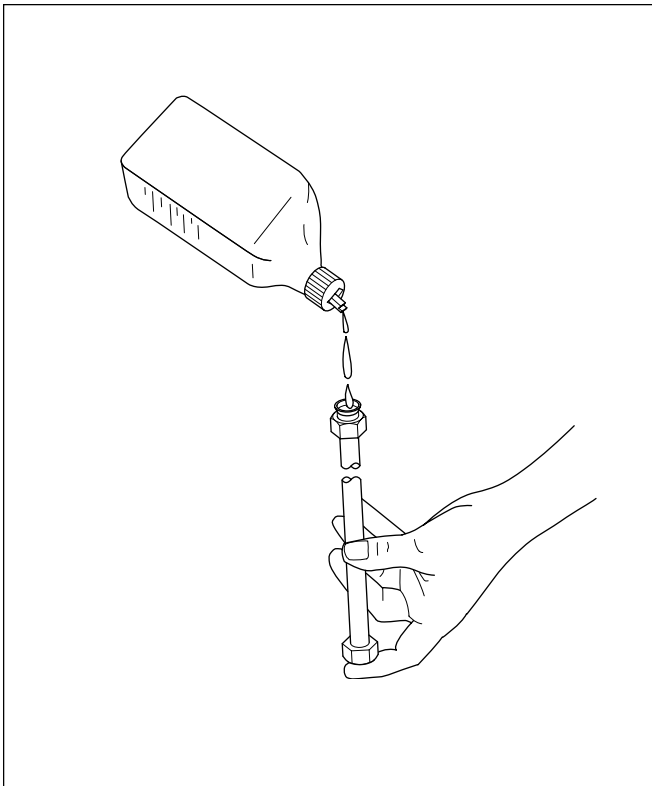

Figure 21
6. Coat the I.D. of the tubing with a clean rust inhibitor such as WD 40 or SP-350. This is best accomplished by filling the tubing with the fluid and then allowing it to drain out (see Figure 21).